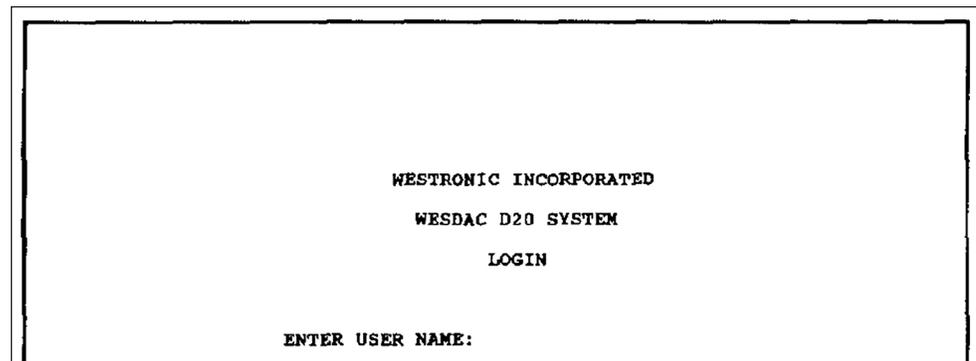

Figure 23. The *System Login* screen.
STEP 18. Using the arrow keys, select the **Go online with D20_M** entry and press the <ENTER> key. Press the <ENTER> key again. (Pressing <ENTER> the first time returns the prompt “Press F1 to return.”) The communication link will be established between the CPM and the computer. The *Westronic Incorporated WESDAC D20 System Login* screen will open. See Figure 23.